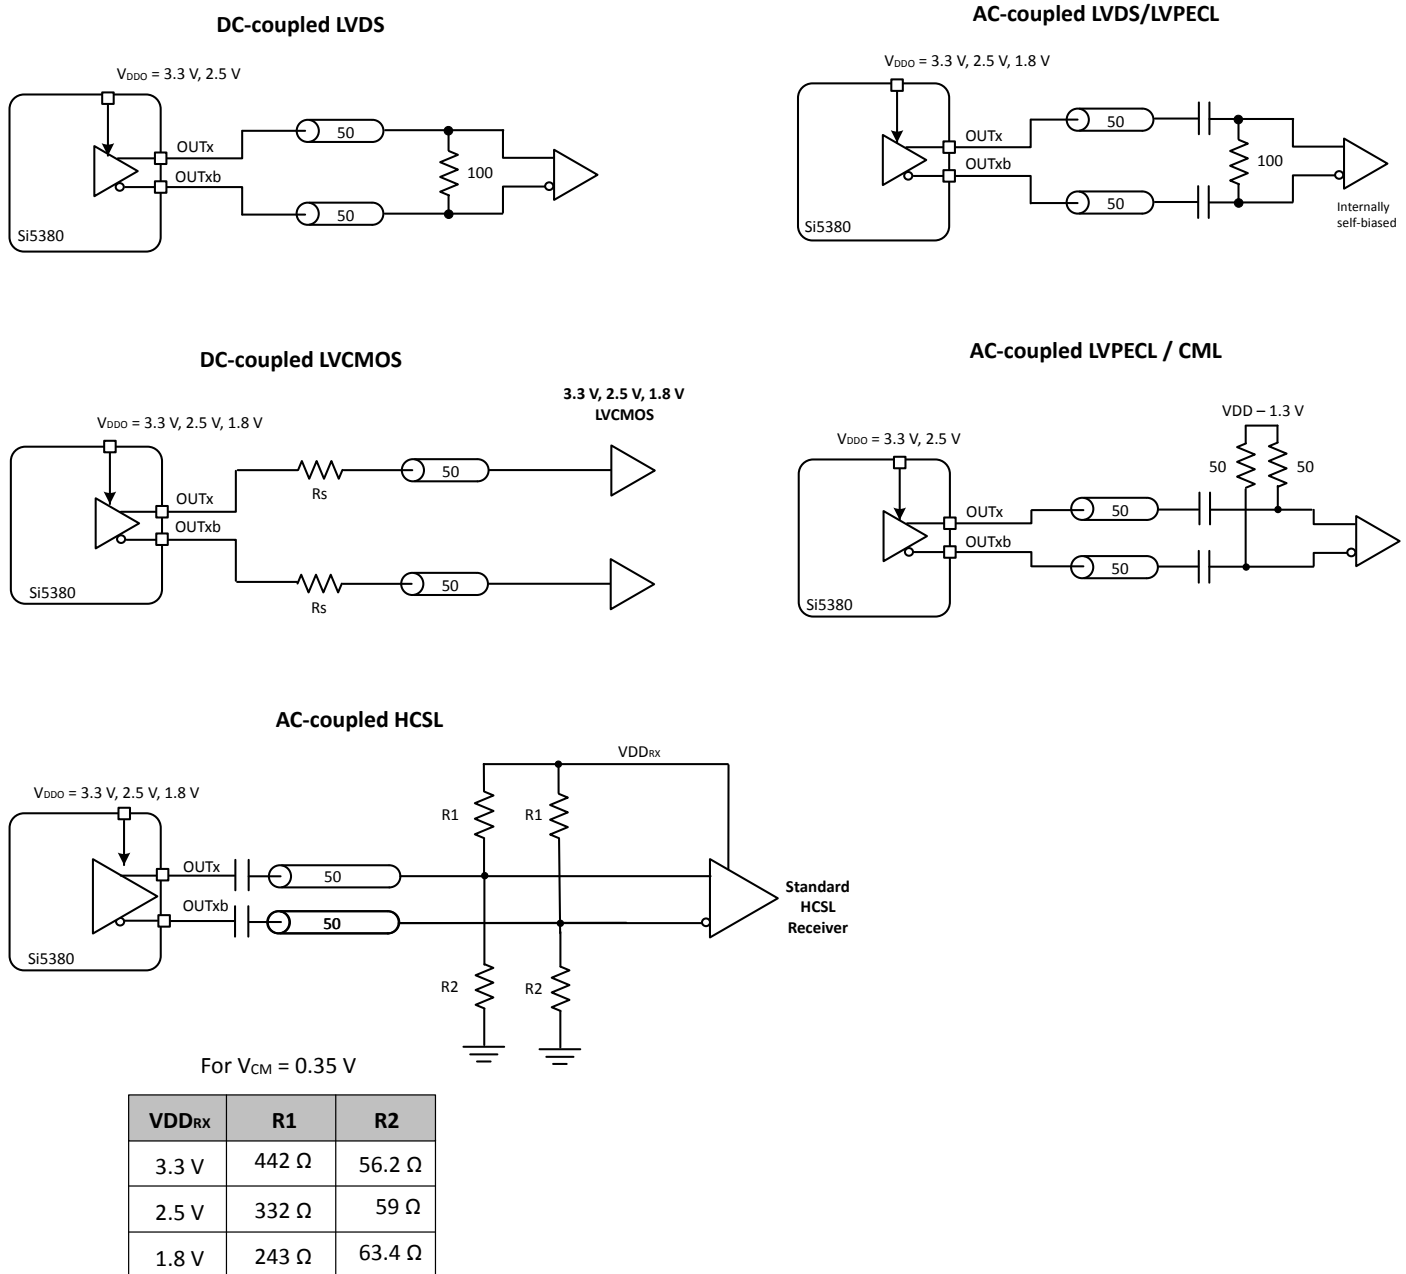

Figure 3.14. Supported Output Terminations
- **Differential Normal Mode:** When an output driver is configured in normal amplitude mode, its output amplitude is selectable as one of 8 settings ranging from 130 mVpp_{se} to 920 mVpp_{se} in increments of 100 mV. The output impedance in the normal mode is 100 Ω differential. Any of the ac-coupled terminations shown in Figure 3.14 Supported Output Terminations on page 15 are supported in this mode.
- **Differential Low Power Mode:** When an output driver is configured in low power mode, its output amplitude is configurable as one of 8 settings ranging from 200 mVpp_{se} to 1600 mVpp_{se} in increments of 200 mV. The output driver is in high impedance mode and supports standard 50 Ω PCB traces. Any of the ac-coupling terminations shown in Figure 3.14 Supported Output Terminations on page 15 are supported in this mode.